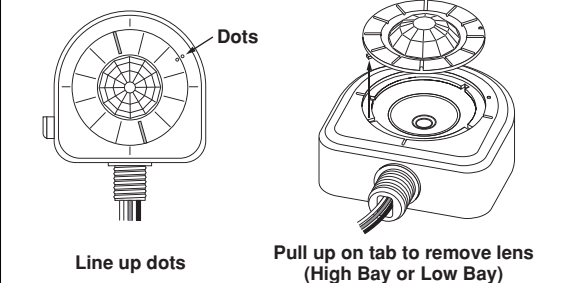

Figure 7B
4. If desired, insert black aisle mask into underside of lens assembly. **NOTE:** Position aisle mask according to aisle direction (**refer to Figure 7B**).